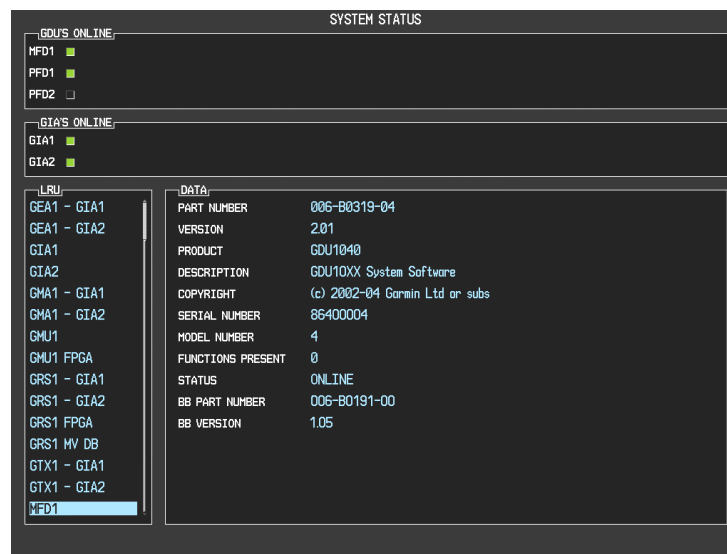

Figure 6-1. System Status Page (Configuration Mode)
2. The system status page (Figure 6-1) displays a list of LRUs in the LRU window. Activate the cursor and use the FMS knob to scroll through the list in the window and select the displayed LRUs.